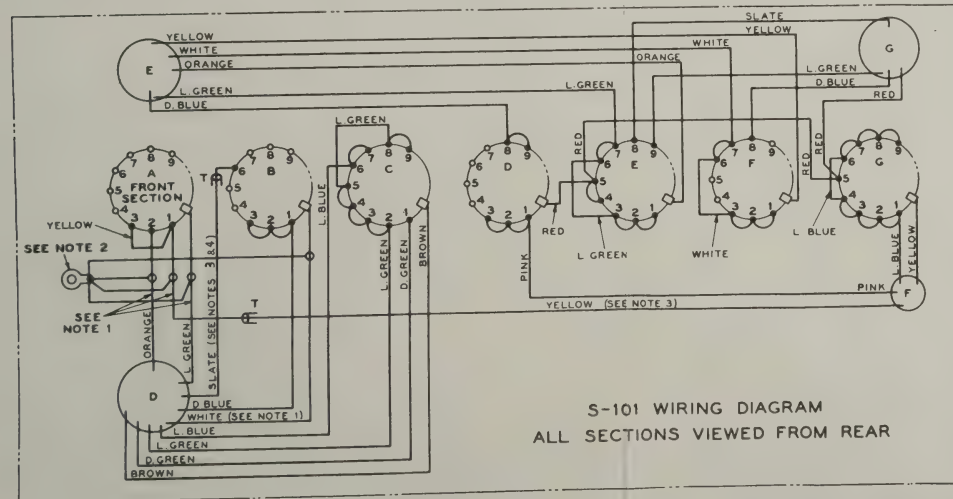

Figure 7-3. Signal Generator TS-419/U, Top of Chassis, Wiring Diagram
8. SEE FIGURES 7-3, 7-3A, 7-3B, AND 7-3C FOR WIRING USED IN EQUIPMENTS OF OTHER CONTRACTS.